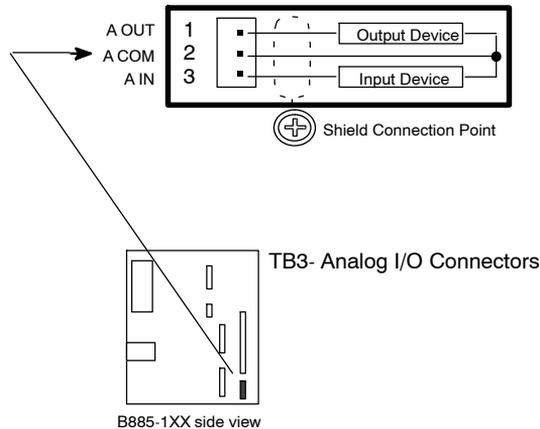

Figure 37 Analog I/O Test Points on the B885-1XX
- a. Analog input mode to select User Variable (1).
- Step 2** Connect the positive output of a 0 ... 10 Vdc variable power supply to the analog input pin TB3-3 and connect the common output to the input common pin TB3-2. Set the power supply output at +5 Vdc. Refer to Figure 37.
- a. Analog output mode to select User Variable (4).
- Step 7** Using a dc voltmeter, measure the analog output voltage from pin TB3-1 (A OUT) and to pin TB3-2 (A COM). The output voltage should be + 5 Vdc. Refer to Figure 37.